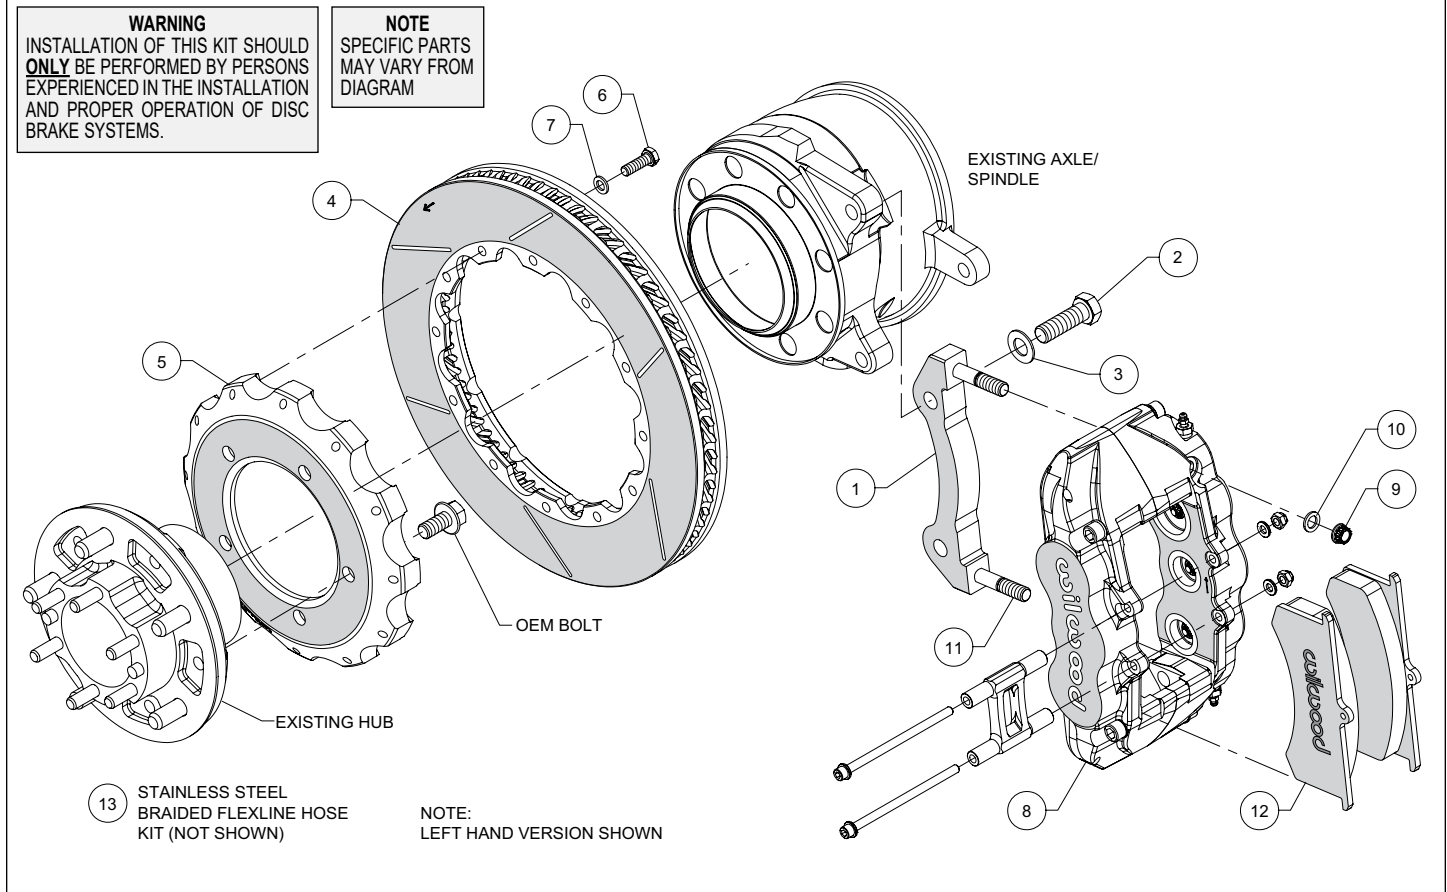
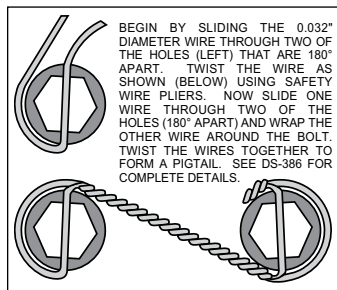

Figure 1. Typical Installation Configuration
Figure 3. Safety Wire Diagram
NOTE: Numbers in parenthesis refer to the parts list and Figure 1 on the preceding pages.
- The caliper mount bracket (1) should initially be installed with clean, dry threads on the mounting bolts. Orient the bracket as shown in Figure 1 and Photo 1, and install using bolts (2) and washers (3). Temporarily tighten the mounting bolts. **NOTE:** The bracket must fit squarely against the mounting points on the upright. Inspect for interference from casting irregularities, machining ridges, burrs, etc. Remove the bracket mounting bolts one at a time, apply red *Loctite*® 271 to the threads, and torque 100 ft-lb.
- Orient the hat (5) and the OEM hub as shown in Figure 1 and Photo 2. Attach hat to hub using saved OEM bolts and torque to OEM specifications. **NOTE:** The hat must fit flush against the axle hub face or excessive rotor run out may result.
- Orient the rotor (4) and the hat assembly (5) as shown in Figure 1 and Photo 3. Attach rotor to hat using bolts (6) and washers (7). Using an alternating sequence, apply red *Loctite*® 271 to the threads, and torque to 25 ft-lb. Safety wire bolts using standard 0.032 inch diameter stainless steel safety wire as shown in Photo 3 and Figure 3. Please refer to Wilwood's data sheet DS-386 (available at www.wilwood.com/Pdf/DataSheets/ds386.pdf) for complete safety wire installation instructions.
- NOTE:** This kit contains distinct right and left hand calipers that must be mounted in a specific direction, as described below. Lubricate the caliper mounting studs (11) with lightweight oil. Mount the caliper (8) onto the bracket (1) using lock nuts (9) and washers (10), Figure 1. Ensure that the caliper is mounted so the largest pistons are at the rotor exit end of the caliper, in relation to the direction of rotor rotation. Temporarily tighten the lock nuts.
- Remove the caliper center bridge pad retainer bolts, nuts, and tubes from the caliper. Insert the brake pads (12) into the caliper, with the friction material facing the rotor, as shown in Photo 5. After everything is set, torque the caliper lock nuts (9) to 47 ft-lb. Secure the brake pads in place with the center bridge pad retainer tubes, bolts, and locknuts, Photo 6. The locknuts should be snug without play in the bolts or tubes. Be cautious not to over tighten.
- NOTE:** OEM rubber brake hoses generally cannot be adapted to Wilwood calipers. The caliper inlet fitting is a 1/8-27 NPT (use PTFE tape on pipe threads of adapter fitting for proper sealing to caliper). Install Wilwood's stainless steel braided flexline hose kit (13), P/N 220-15714 included with this kit, Photo 7. **Carefully route hoses to prevent contact with moving suspension, brake or wheel components.** **NOTE:** Wilwood hose kits are designed for use in many different vehicle applications and it is the installer's responsibility to properly route and ensure adequate clearance and retention for brake hose components.